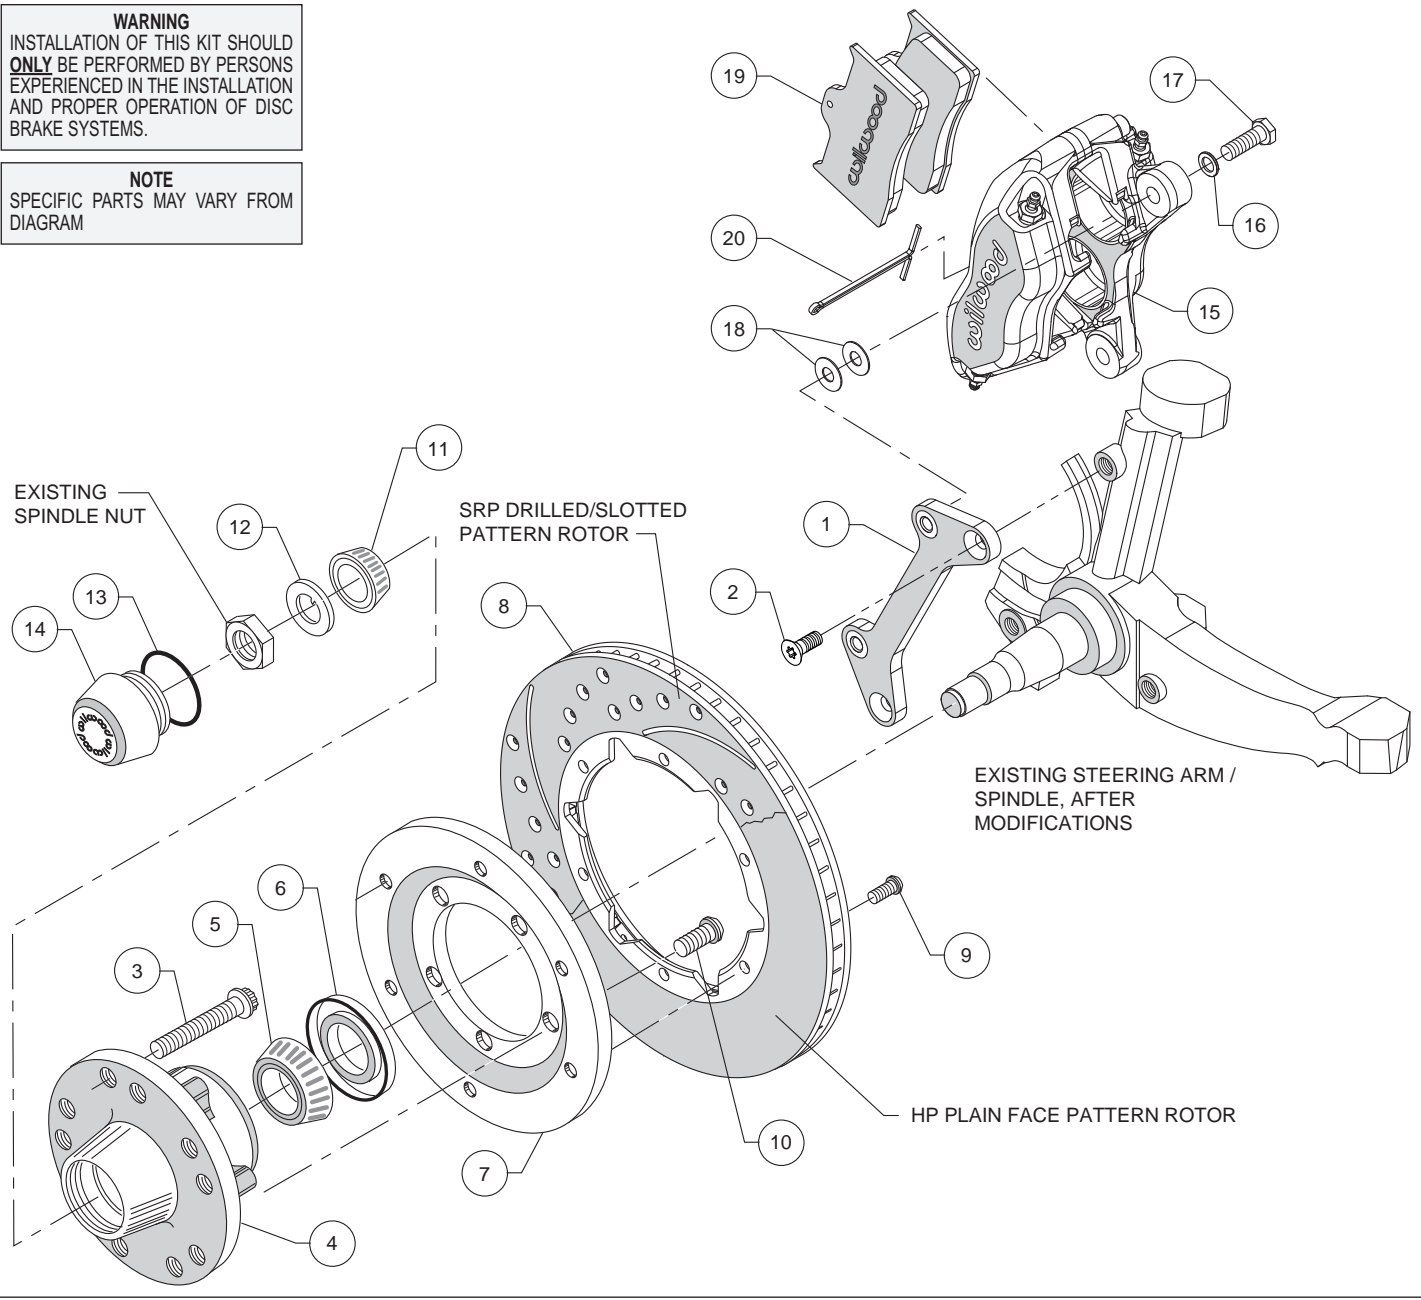
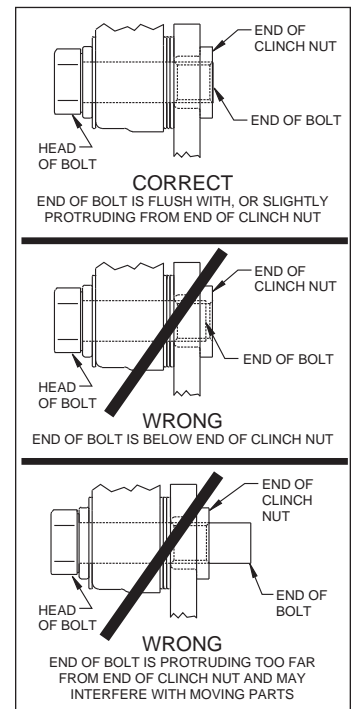

Figure 2. Typical Installation Configuration
Figure 4. Clinch Nut Engagement Diagram
Assembly Instructions (numbers in parenthesis refer to the parts list, on the preceding page and Figure 2 above): **CAUTION:** All mounting bolts must fully engage clinch nuts. Be sure to check that all bolts are either flush or protruding through flanged side of clinch nut after shimming, Figure 4.
- Align caliper mounting bracket (1) with the corresponding holes, to the face of the spindle. Attach using bolts (2) as shown in Figure 2 and Photo 1. Temporarily tighten the mounting bolts. Ensure that the flanged heads of the clinch nuts in the bracket are facing outboard, Photo 1. **NOTE:** The bracket must fit squarely against the mounting points on the spindle. Inspect for interference from casting irregularities, machining ridges, burrs, etc. Remove bolts one at a time, apply red *Loctite*® 271 to threads and torque to 40 ft-lbs.
- Orient the rotor (8) and the rotor adapter (7) as shown in Figure 2 and Photo 4. Attach the rotor to the adapter using bolts (9). Using an alternating sequence, apply red *Loctite*® 271 to the threads, and torque to 25 ft-lb.
- Mount the adapter/rotor assembly (7/8) to the hub (4) using bolts (10), as shown in Figure 2 and Photo 5. Using an alternating sequence, apply red *Loctite*® 271 to the threads, and torque to 45 ft-lb.
- Pack the small outer bearing cone (11) with high temperature disc brake bearing grease and install into hub (4). Slide the hub/rotor assembly onto the spindle. Secure using spindle washer (12) and OEM spindle nut, Photo 6. Adjust bearings per OEM specifications. Install saved OEM nut lock (if any) and a new cotter pin (not included).
- Screw dust cap (14) into hub (4), Photo 7. Friction created by the o-ring (13) on the dust cap keeps it from unscrewing. **NOTE:** The O.D. of the existing OEM spindle washer may be larger than the I.D. of the dust cap not allowing it to seat against the hub face. Therefore, use the spindle washer (12) supplied with the kit instead of the OEM washer.
- NOTE:** Please reference the caution statement at the beginning of the assembly instructions. Mount the caliper (15) onto the caliper mounting bracket (1) using bolts (17) and washers (16), as shown in Figure 2. Initially place two .035" thick shims (18) on each bolt between the caliper and the bracket, Photo 8. Temporarily tighten the mounting bolts and view the rotor (8) through the top opening of the caliper. The rotor should be centered in the caliper, Photo 9. If not, adjust by adding or subtracting shims between the bracket and the caliper. Always use the same amount of shims on each of the two mounting bolts. **NOTE:** The end of each bolt must be flush with or slightly protruding from the head of the clinch nut, as shown in Figure 4. If necessary place spare shims between washer (16) and caliper mounting ear to achieve the proper clinch nut engagement. Once the caliper alignment and clinch nut engagement are correct, remove the bolts one at a time, apply red *Loctite*® 271 to bolt threads, and torque to 40 ft-lb.
- Install the disc brake pads (19) into the caliper, with the friction material facing the rotor (8), and secure in place using cotter pin (20), Photo 10.